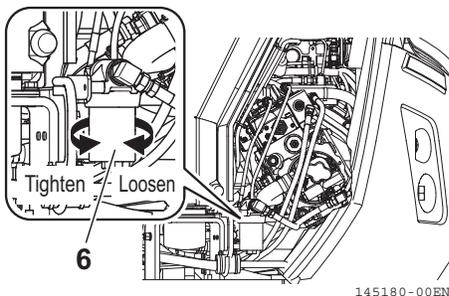

Fig. 8-73
4. Apply a spanner onto the hexagon at the bottom of the case (Fig. 8-73, 6), and loosen the case (Fig. 8-73, 6) by turning the spanner counterclockwise viewed from the bottom.